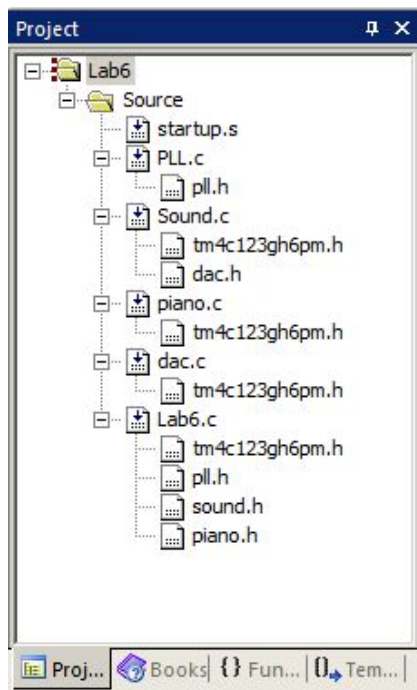
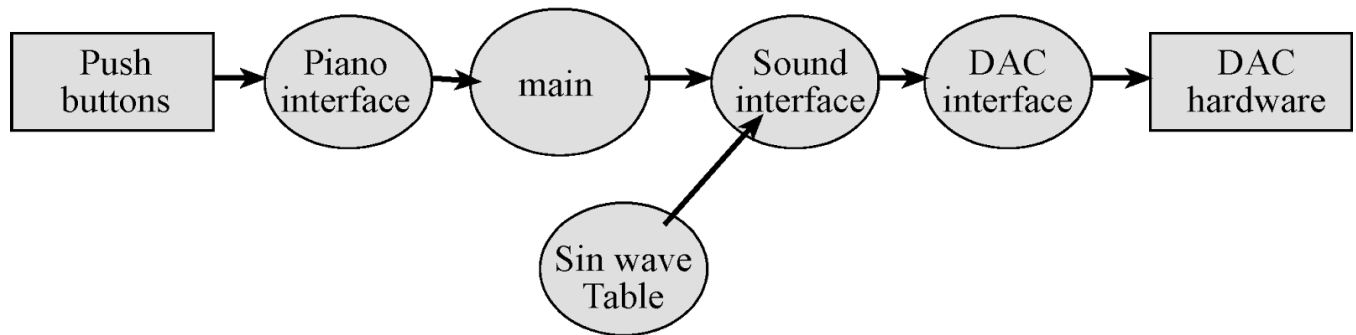
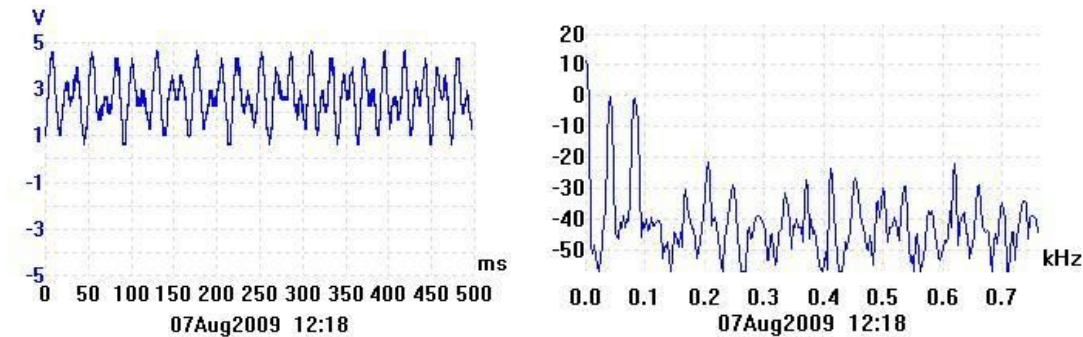

Figure 6.1 An example project source tree with all header files listed where they are included
Figure 6.6. Data flows from the memory and the switches to the speaker.
Figure 6.10. A song being played with a harmony and melody (see two peaks in the spectrum).
Measure the range, precision, resolution, and accuracy of your DAC's analog output by connecting it to your voltmeter or oscilloscope. This requires you to write a simple main program to test the DAC, similar in style as Program 6.1. You are free to debug this system however you wish, but you must debug The DAC module separately. You should initially debug your software in the simulator (Figure 6.3). You can single step this program, comparing digital **Data** to the analog voltage at the V_{out} without the speaker attached (i.e., left side of Figure 6.1).
Write a main program to implement the three-key piano. Make a heartbeat connected to an LED so you can see that your program is running. Document clearly the operation of the routines. Figure 6.1 shows what a lab 6 project might look like at this step in the process. Figure 6.6 shows a possible data flow graph of the music player. Debug the system first in the simulator then on the real TM4C123 with an oscilloscope. Take a photograph of the scope traces (like Figure 6.10) to capture the waveform generated by your digital piano. When no buttons are pressed, the output will be quiet. When switch 1 is pressed, output a sine wave at one frequency. When switch 2 is pressed,
- b. If you organized the system different than Figure 6.6 and 6.7, then draw its data flow and call graphs